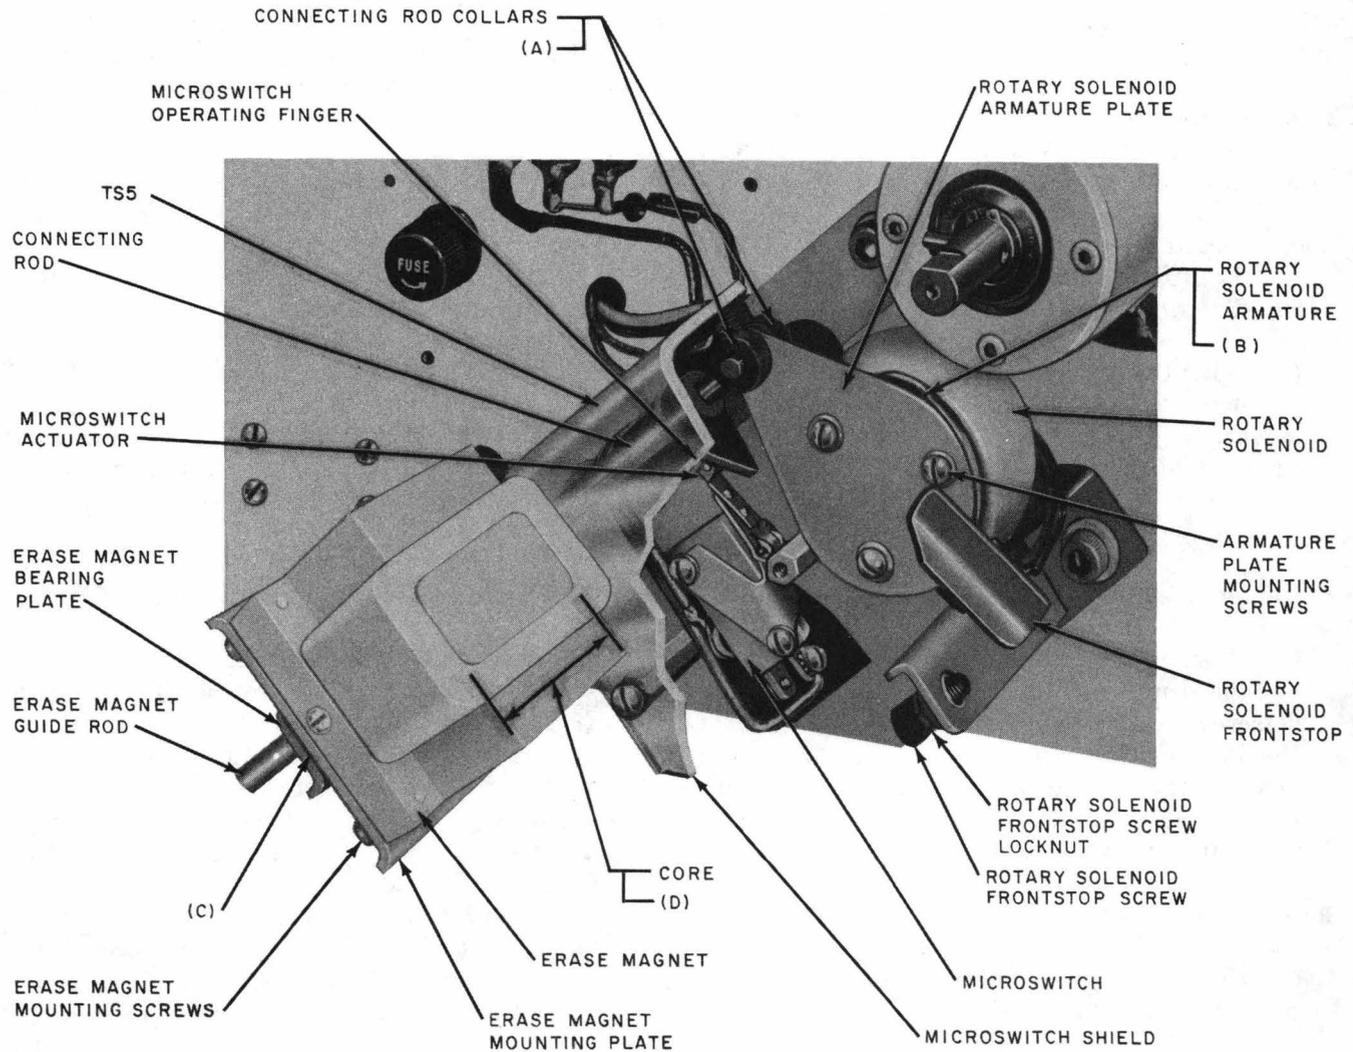

Fig. 4—Erase Magnet, Rotary Solenoid, and Associated Parts
- (7) Fig. 4(A) — One drop to the connecting rod divided between the collars at each side of the armature plate.
- (8) Fig. 4(B) — One drop to the roller of the Micro Switch.
- (9) Fig. 4(C) — One drop to each ball of the rotary solenoid armature.
(f) **Connecting Rod Collars—Fig. 4(A):** One drop of KS-16326 L1 oil, evenly distributed between the two collars, at surface areas making contact with the rotary solenoid armature plate.
(g) **Rotary Solenoid Armature—Fig. 4(B):** One drop of KS-16326 L1 oil to each ball of the armature.